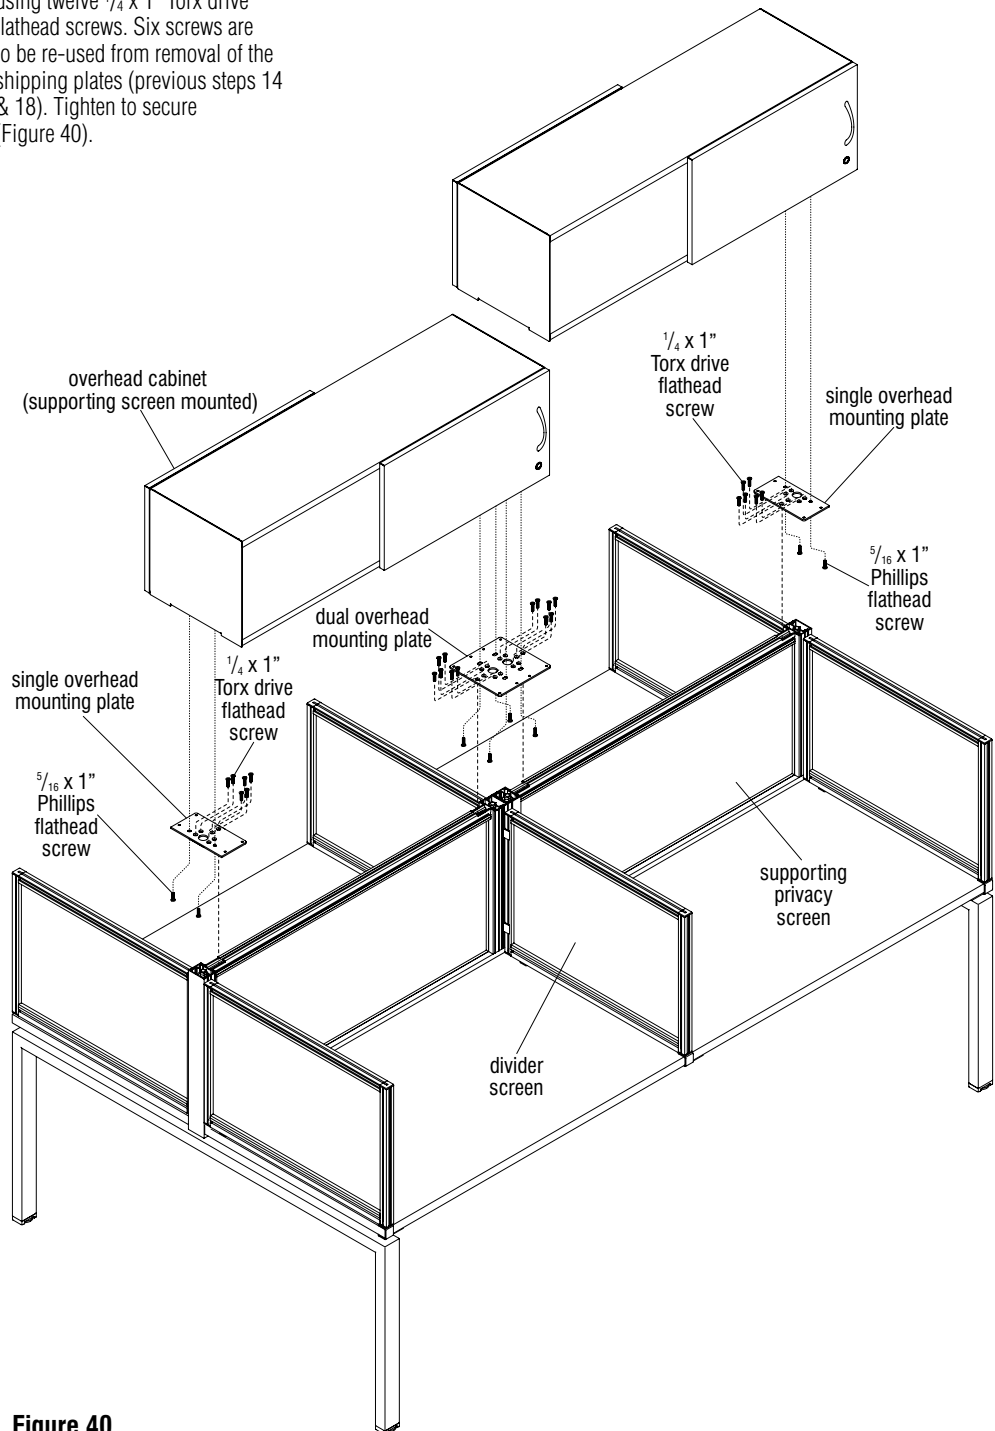

Figure 40
**Important:** If divider screens are specified, as shown in figure 40, they must be installed prior to the installation of any overhead unit onto supporting privacy screens.
**Note:** Supporting privacy screen mounted "overhead cabinet" installation is shown in the steps below (Figure 40). Your units may vary. With wooden shelves, use hardware provided, align mounting holes and attach using screws from underneath.
24. If divider screens were installed, then the shipping plates (and screws) have been removed from supporting privacy screens (Figure 40). If not, remove all shipping plates from the top of supporting privacy screens to receive supporting screen mounted overhead cabinet(s). Retain the removed  $\frac{1}{4} \times 1"$  Torx drive flathead screws for the next step (Figure 39).
25. At supporting privacy screen ends (or at the location where a run of supporting screen mounted cabinets will end), a "single overhead mounting plate" is used. Orient the single overhead mounting plate, with larger counter-sink holes facing up, over screw bosses in the top of the supporting privacy screen (at locations where shipping plates were removed) and secure each single-plate using six  $\frac{1}{4} \times 1"$  Phillips flathead screws. Three screws are to be re-used from removal of the shipping plate (previous steps 14 & 18). Tighten to secure (Figure 40).
the twelve screw bosses in the top of two supporting privacy screens (over locations where shipping plates were removed) and secure using twelve  $\frac{1}{4} \times 1"$  Torx drive flathead screws. Six screws are to be re-used from removal of the shipping plates (previous steps 14 & 18). Tighten to secure (Figure 40).
From underneath mounting plates, secure each cabinet with four  $\frac{5}{16} \times 1"$  Phillips flathead screw per cabinet (Figure 40).